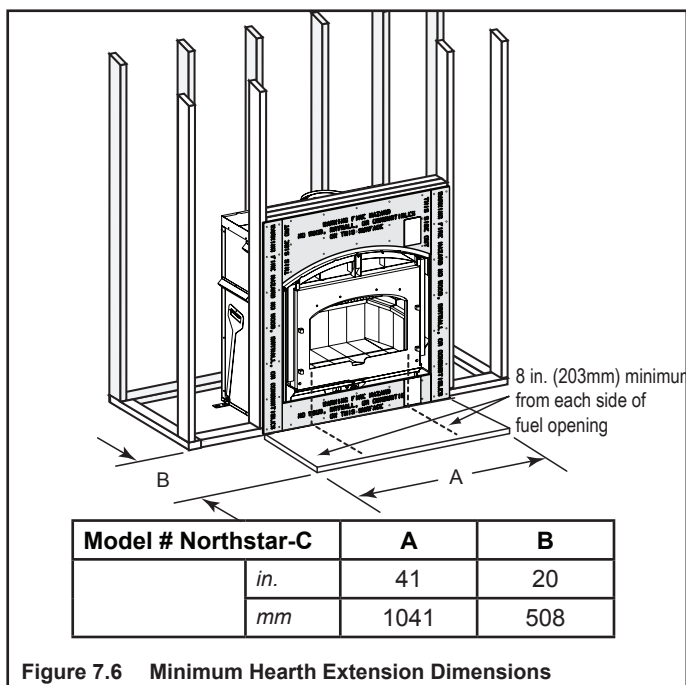

Figure 7.6 Minimum Hearth Extension Dimensions
- Refer to Figure 7.6 for minimum dimensions.
Non-combustible flooring a minimum of 20 in. (508 mm) in front of and 8 in. (203 mm) to either side of the fuel opening is required as shown in Figure 7.6.
Non-combustible flooring a minimum of 20 in. (508 mm) in front of and 8 in. (203 mm) to either side of the fuel opening is required (see Figure 7.6).